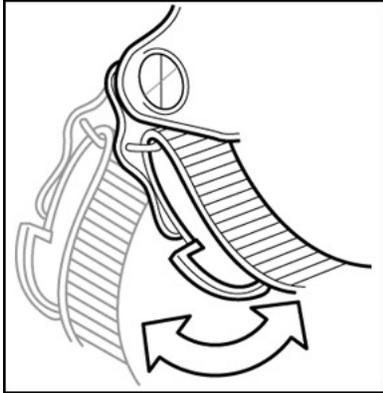

Fig. 18
2. Attach new harness by pressing attachment buttons into holes in face seal tabs with twisting motion. Be certain buttons are fully seated. Head harness should be assembled with 2 short straps to top of respirator and 3M 6897 marking on harness facing away from respirator. (Fig. 18)